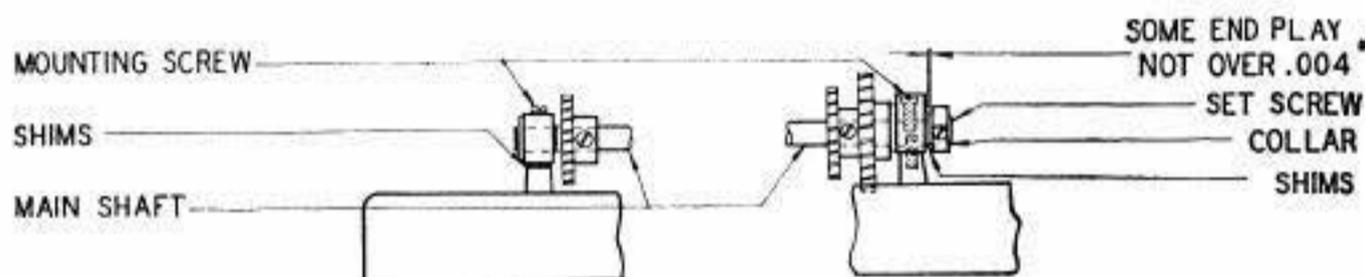

Fig. 15
3.44 **Main-shaft Bearings:** The main shaft should turn freely in its bearings. Check throughout one complete revolution of the main shaft. Fig. 15
3.45 **Main-shaft Endplay:** The main shaft should have some endplay, not over .004\". Fig. 15